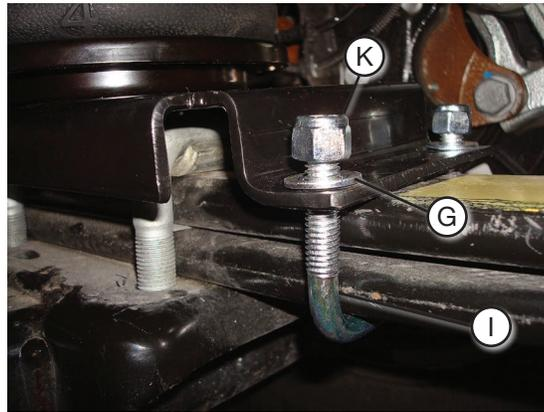

fig. D.11
- Attach the lower bracket to the leaf springs by inserting two U-bolts (I) around the leaf springs and through the lower bracket. Cap with 3/8" flat washers (G) and 3/8" nylon lock nuts (K) (Fig. D.11). Push the assembly back or forward to align the air spring perpendicular to the upper mounting and torque the U-bolt hardware to 16 lb.-ft. (22 Nm).